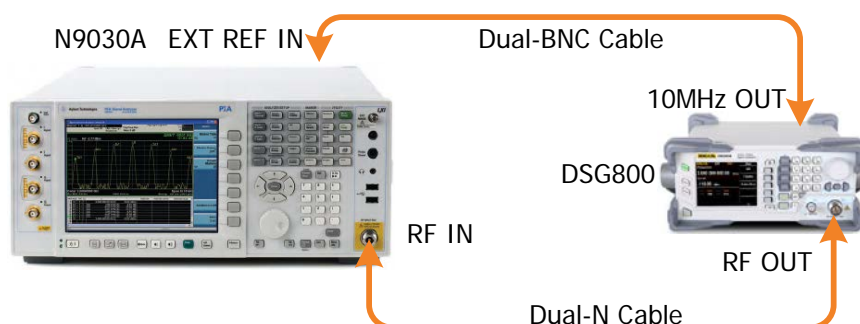

Figure 2-2 Single-sideband Phase Noise Test Connection Diagram
1. Connect the **[10MHz OUT]** terminal of DSG800 with the **[EXT REF IN]** terminal at the rear panel of the signal analyzer using a dual-BNC cable to synchronize the two instruments, as shown in Figure 2-2.